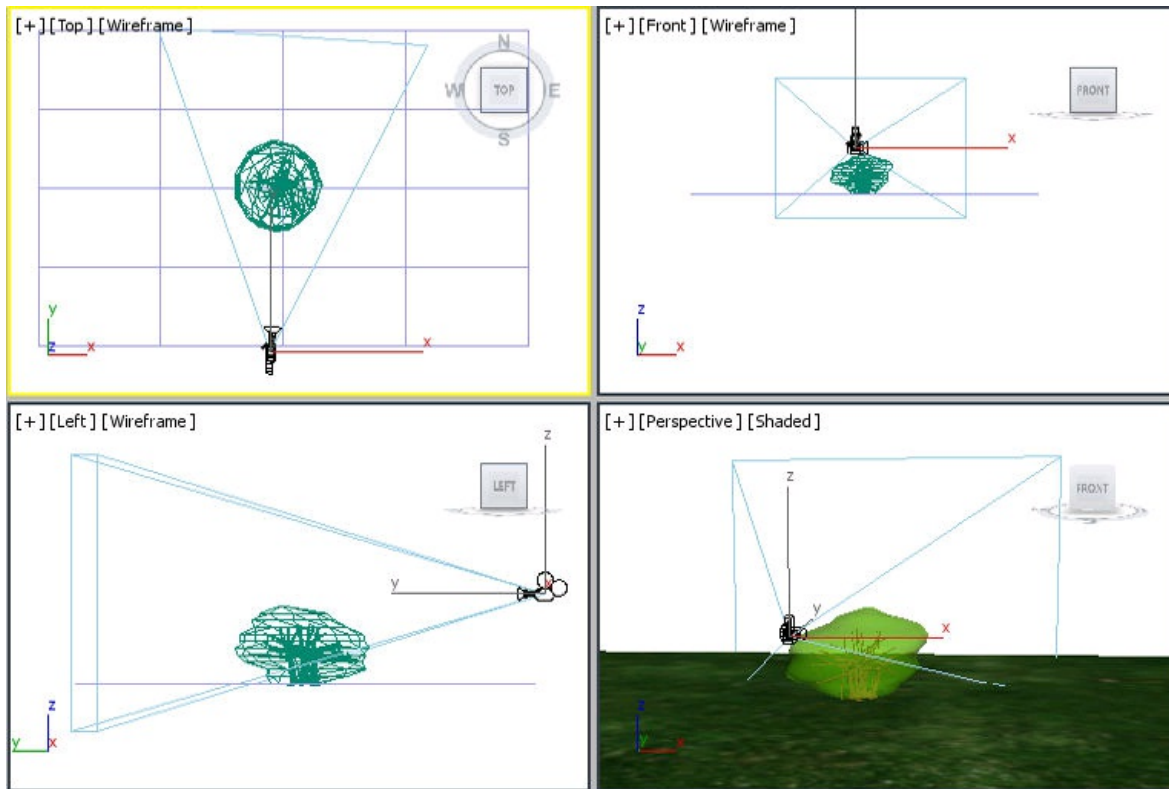

Figure 15-27 Alignment of the Camera001 in viewports
3. Choose the **Foliage** tool from **Create > Geometry > AEC Extended** in the **Command Panel** and create a tree in the Top viewport, as discussed earlier. Set the height of the tree according to *ground*. Align the tree at the center of the ground in all viewports, refer to Figure 15-27.
2. Create a Free camera in the Front viewport. The camera is automatically named as *Camera001*. Align the *Camera001* in all viewports, refer to Figure 15-27.